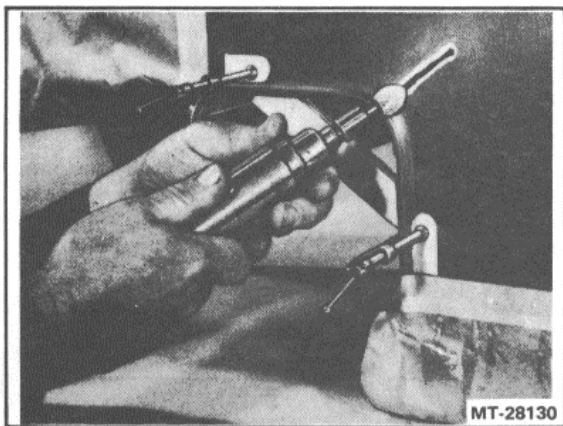

Figure 32. - Tapering Edges (Crack Shown - Typical)
11. Working from the outside and using a file or grinder, taper the edges of the damaged area at an angle of no more than 45 degrees (Figure 32).